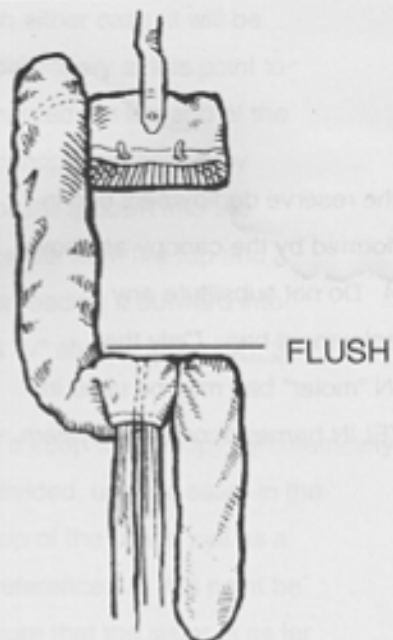

FIG. 6
- 6) With left knee kneel on the "S" folded portion of the canopy and fold the right hand ear all the way back. Making fold flush with top of canopy. (See FIG. 6)